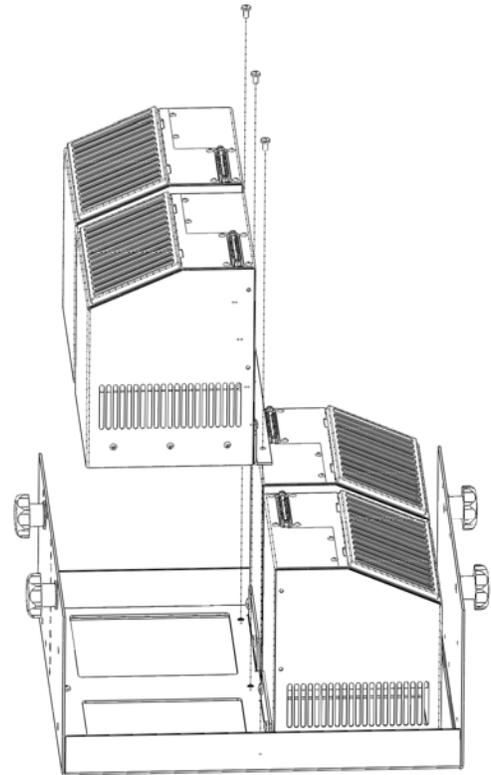

Figure 10. Install Cradle Adapter Plates, In-Line Position
4. Secure the LED Array-to-Cradle Adapter assembly to the Cradle assembly with the remaining three M4 x 10-mm screws (40462), as shown in Figure 10.